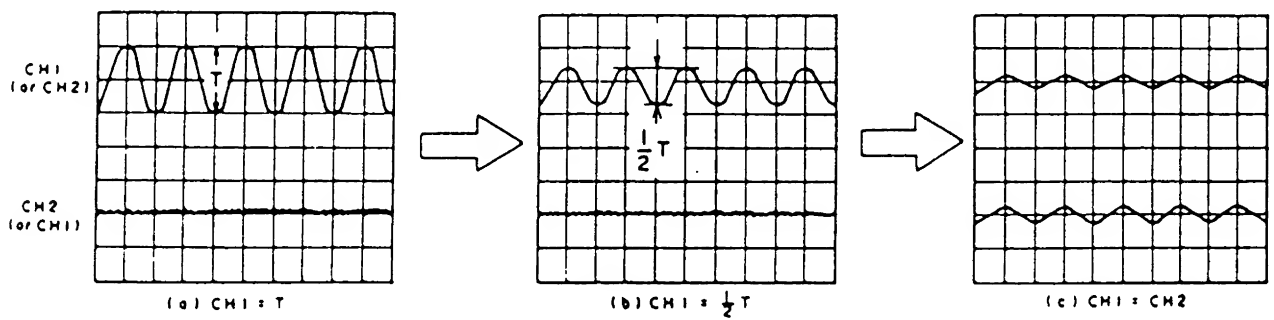

Fig. 4-14
- 2) Connect an oscilloscope's CH-1 to the AUDIO OUT on the rear panel and CH-2 to the TP301 (CTL OUT) on the MAIN (A) PCB.
- 3) Turn the hexagon screw to obtain 1/2 of the output level of either CH-1 or CH-2 whichever has an output signal as shown in Fig.4-14. Then set both of the oscilloscope's channels to 100mV/div and finely adjust the hexagon screw until both signals of CH-1 and CH-2 are nearly the same level.